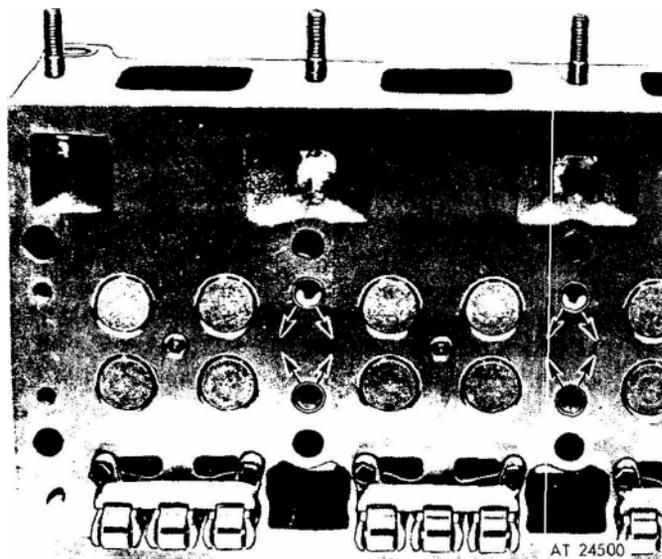

Figure 5. Correct installation of water nozzles in four valve cylinder head.
c. Press the nozzles into place with the outlet holes positioned as shown in figure 5. The angle between the outlet holes in the nozzles is  $90^\circ$ . The nozzles should be from flush to  $1/32$ " below the bottom surface of the cylinder head, otherwise interference with proper seating of the head on the cylinder block may be *encountered*.